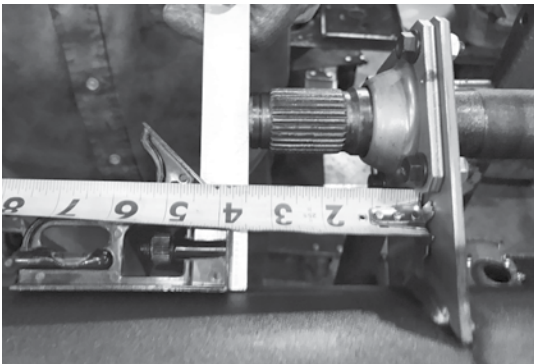

Figure 2: S-cam bracket assembly must be 3.5 inches (90 mm) from the end of the camshaft
3. **Position** replacement bracket on axle (Figure 2):
Position the S-cam bracket assembly laterally on the axle tube (Figure 2) so the inside surface of the S-cam bracket assembly is $3\frac{1}{2}$ inches (90 mm) from the end of the camshaft.